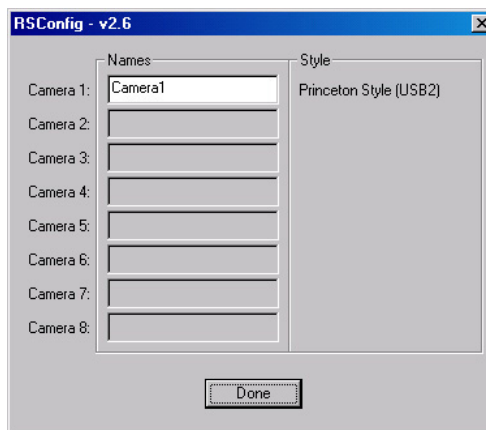

Figure 98. RSConfig dialog
4. When the RSConfig dialog (Figure 98) appears, you can change the camera name to one that is more specific or you can keep the default name "Camera1". When you have finished, click on the **Done** button.